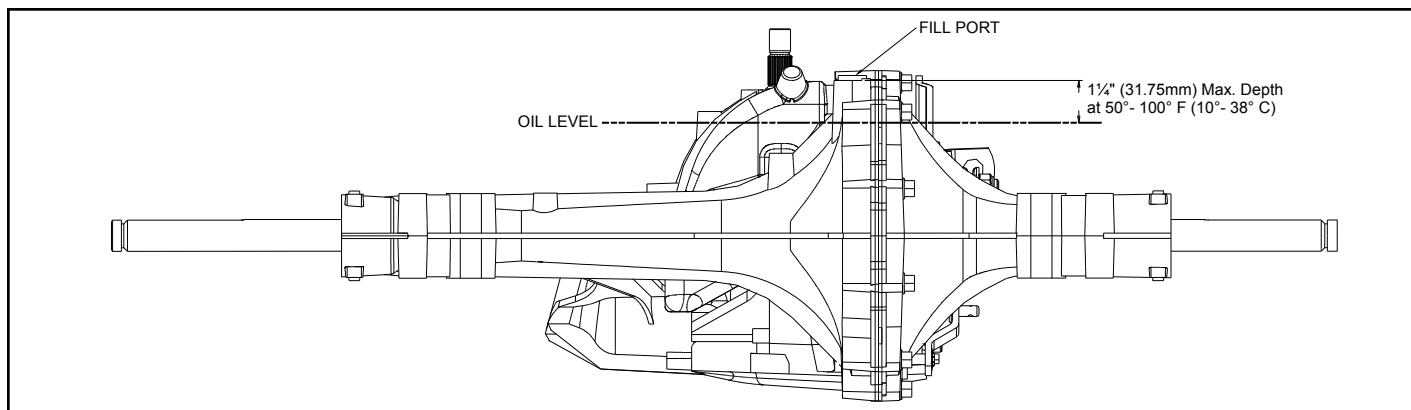

Figure 4. 310-0510 Fluid Level and Fill Port
2. Check oil level in accordance with Figure 4 Page 10.
Certain situations may require additional fluid to be added or even replaced. Refer to Page 4 and Figure 4 for the proper fill port location.
9. Fill the transaxle at the oil fill port according to Figure 4.
Before starting, make sure the transaxle/ transmission is at the proper oil level. If it is not, fill to the specifications outlined on page 10, Figure 4.